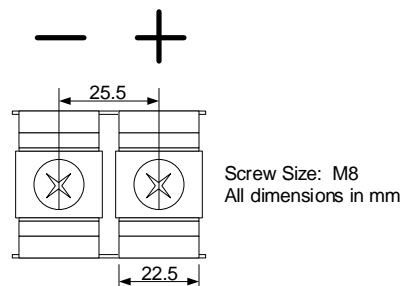

Figure 11 - DC Terminal Block Connections
- Remove the plastic cover of DC terminal block which is supplied with the product. Connect the negative and positive cables to the DC terminal block as shown in Figure 11. Connections should be tightened to a specified torque of 5.7 Nm (50 in-lb) +/- 5%.